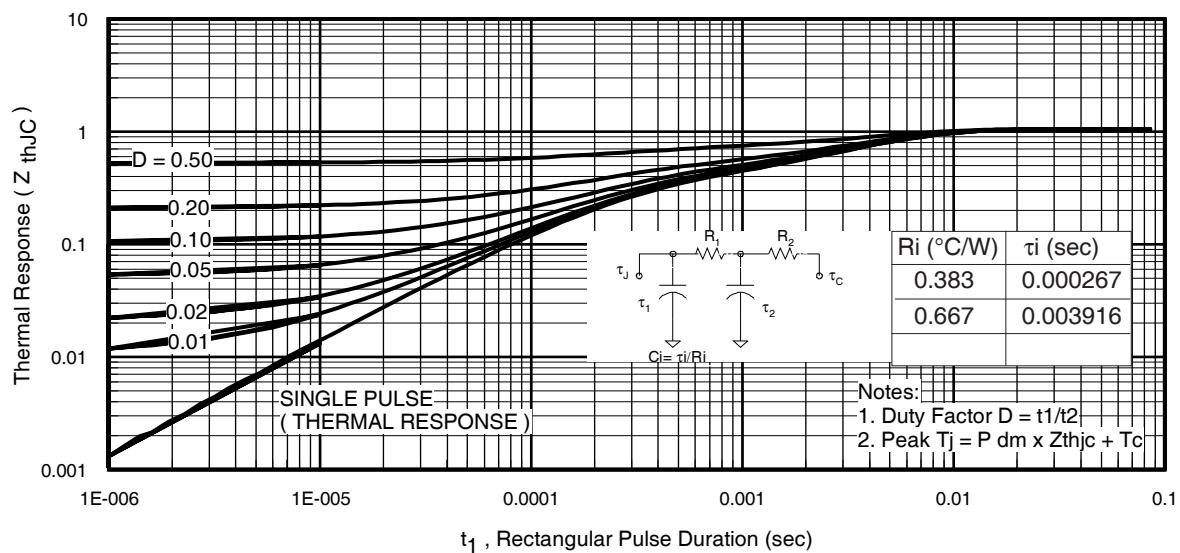
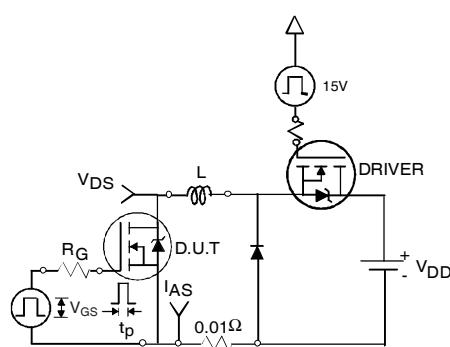

Fig 11. Maximum Effective Transient Thermal Impedance, Junction-to-Case
Fig 12a. Unclamped Inductive Test Circuit
- ① Repetitive rating; pulse width limited by max. junction temperature. (See fig. 11).
- ② Limited by $T_{J\text{max}}$, starting $T_J = 25^\circ\text{C}$, $L = 0.16\text{mH}$, $R_G = 25\Omega$, $I_{AS} = 38\text{A}$, $V_{GS} = 10V$. Part not recommended for use above this value.
- ③ Pulse width $\leq 1.0\text{ms}$; duty cycle $\leq 2\%$.
- ④ $C_{oss \text{ eff.}}$ is a fixed capacitance that gives the same charging time as C_{oss} while V_{DS} is rising from 0 to 80% V_{DSS} .
- ⑤ Limited by $T_{J\text{max}}$, see Fig.12a, 12b, 15, 16 for typical repetitive avalanche performance.
- ⑥ This value determined from sample failure population. 100% tested to this value in production.
- ⑦ When mounted on 1" square PCB (FR-4 or G-10 Material).
- ⑧ R_θ is measured at T_J approximately 90°C .
- ⑨ Calculated continuous current based on maximum allowable junction temperature. Bond wire current limit is 42A. Note that current limitations arising from heating of the device leads may occur with some lead mounting arrangements.
3. Equation below based on circuit and waveforms shown in Figures 12a, 12b.
$Z_{thJC}(D, t_{av})$ = Transient thermal resistance, see figure 11)